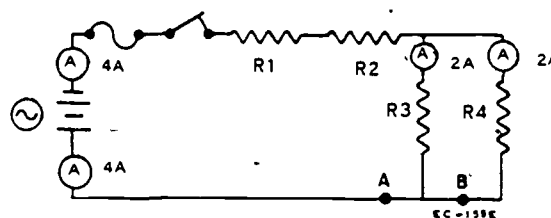

Figure 93. Series-Parallel Circuit
In the schematic diagram of the series-parallel circuit shown in figure 93, the sum of the voltage drops across the series resistors R_1 and R_2 , plus the voltage drop across one unit of resistance of the parallel portion R_3 or R_4 , equals the total voltage in the circuit. Thus, a rule regarding series parallel circuits expressed mathematically would be:
1. Referring to figure 93, if R_1 , R_2 , R_3 and R_4 are all 10-ohm resistors and the alternator is delivering 100 volts:
2. Referring to figure 93, if the current is 4 amperes at point "A," what will the current be at point "B"?